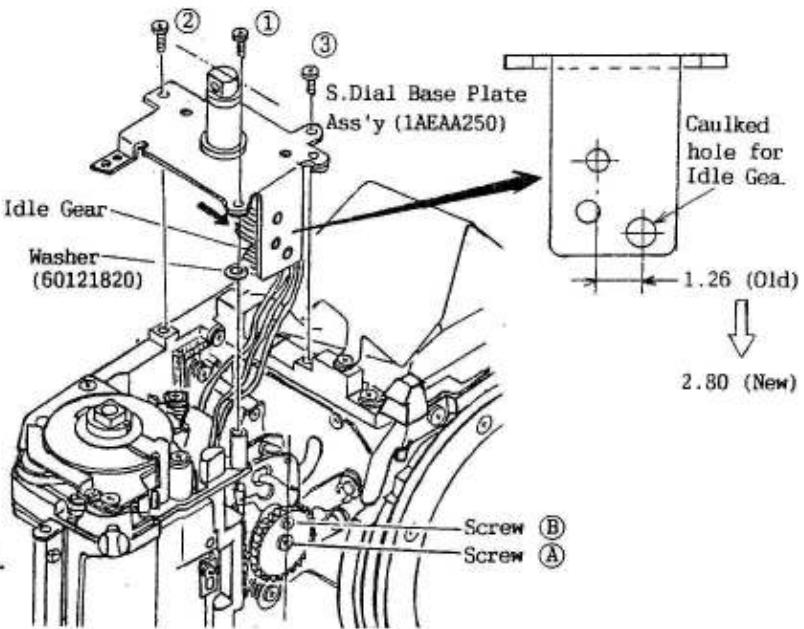

Fig.14
- 1) Set the Shutter Speed Setting Gear so that the screw ② of the Shutter is positioned just above the screw ①. (Bulb position)
- 2) With the D-cut surface of the shaft facing as shown in Fig.14, install the S. Dial Base Plate on the Body.